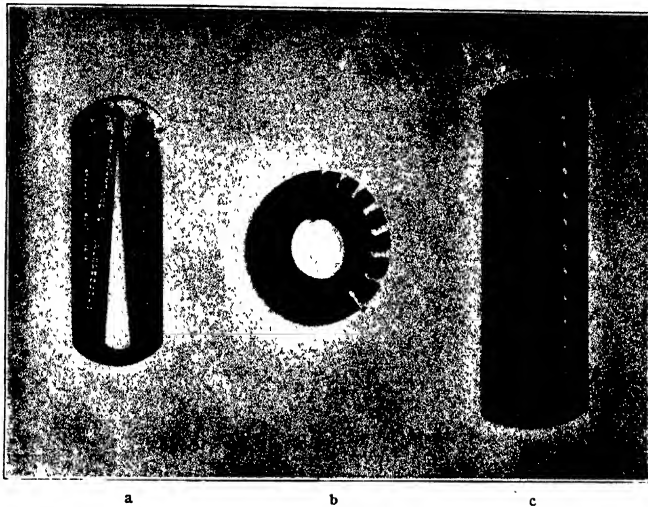

Fig. 220. Screw- and Wire-Gages.
*Screw- and wire-gages*, Fig. 220, are useful in measuring the lengths and sizes of screws and wire when fitting or ordering.
The size of screws is indicated by their length in inches, and by the diameter of the wire from which they are made, using the standard screw-gage, Fig. 220, p. 117. They vary in size from No. 0 (less than  $1/16"$ ) to No. 30 (more than  $7/16"$ ) in diameter, and in length from  $1/4"$  to 6".